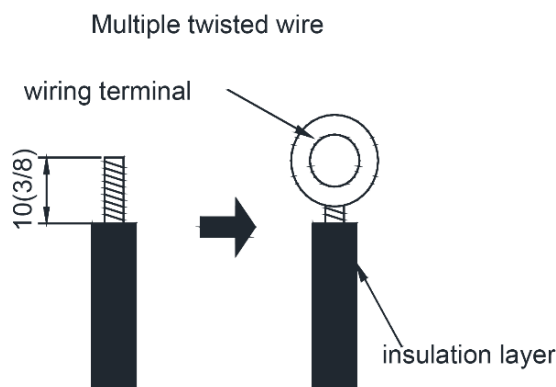

Fig 10.1.2
(2) The connection of stranded wire (as shown in fig 10.1.2)